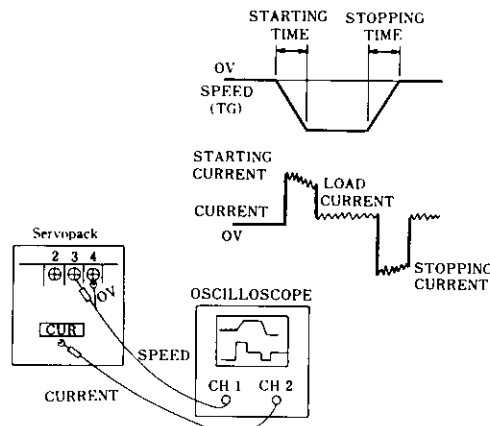

Fig. 7.16 Checking Speed and Current
- (b) Check speed and current using an oscilloscope (Fig. 7.16).